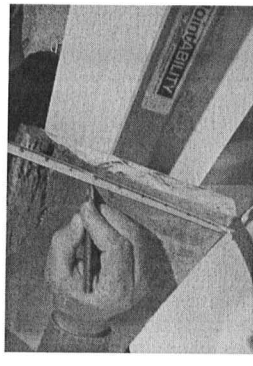

Figure 7.
- Measure and mark the ends of the board to the finished width you want as can be seen in figure 7.